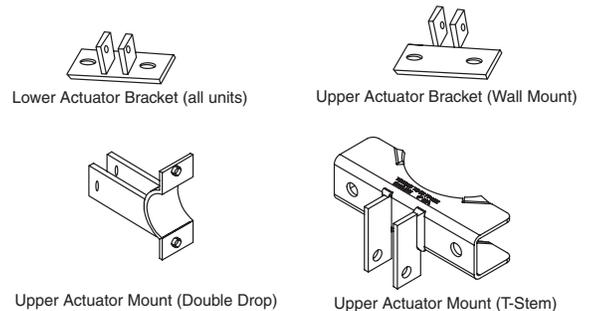

Figure 4
- ① Locate appropriate Actuator Brackets (see Figure 4), and attach to specific backstop frame.
- ② Bolt Electric Actuator to Upper Actuator Bracket.
- ③ Attach Actuator Tube to Lower Actuator Bracket.
- ④ Wire according to wiring diagram.
- ⑤ Verify that Height Adjuster has at least 24" of travel, and that the full "up" position places the goal at 10' above floor. Adjust limit switches as necessary (see "Adjusting Limit Switches" below).
- ⑥ Thread Nylon Bolts into rear mainframe assembly until they just touch the lip tubes. Tighten down nylon jam nuts to secure.